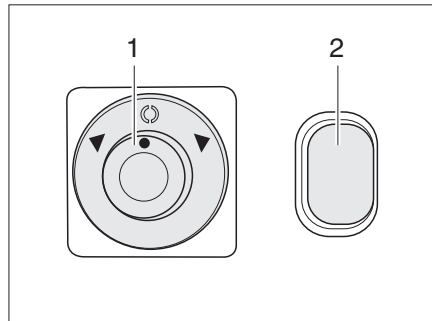

Fig. 23 Switch for electrically adjustable external mirrors and mirror heater
Adjusting: ■ Select the mirror to be adjusted. To do so, turn the rotary switch (Fig. 23,1) to the left or right.
■ Adjust the mirror by pressing the switch (Fig. 23,1) in the appropriate direction.
Switching on the heater: ■ Press the switch (Fig. 23,2). The switch indicator lamp lights up in orange and shows it is in operation.